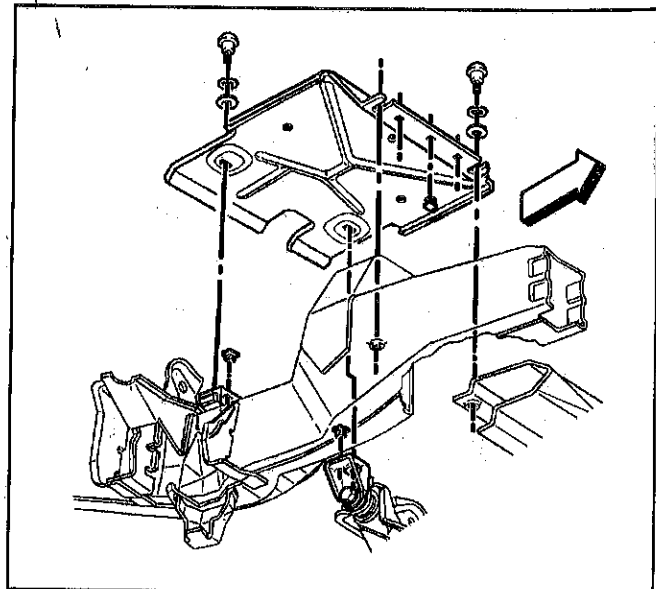

Figure 4—Front Differential Carrier Shield
4. Front differential carrier body shield, if equipped (Figure 4).